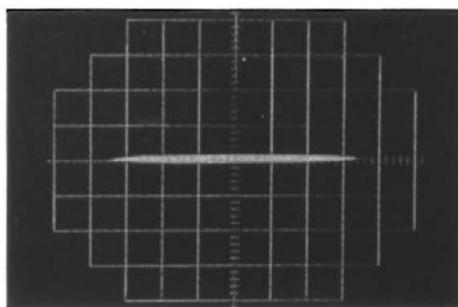

Fig. 14
4. The multipath wave-forms appear in a number of differing patterns in accordance with the height and direction of the antenna and with the strength of the radio waves. In addition, they are undergoing variations all the time due to the strength of the audio signals. The wave-forms illustrated in Photo A of Fig. 14 are an example of what you can expect to observe when the multipath distortion is relatively high. In order to reduce the multipath distortion, adjust the height and direction of the antenna so that the patterns become linear (see Photo B of Fig. 14).